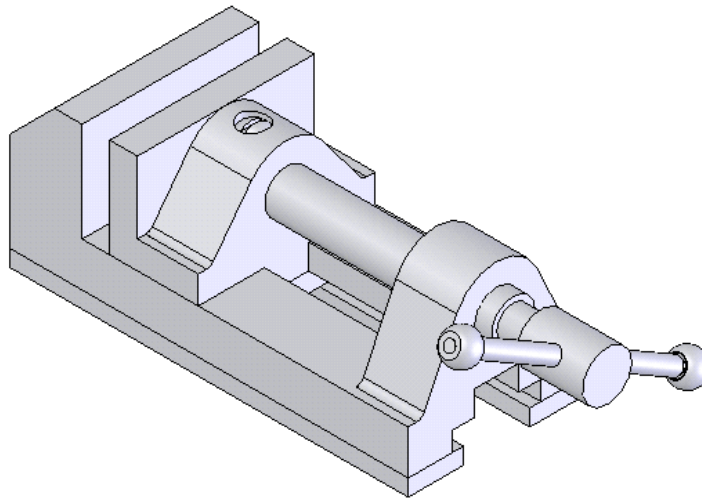
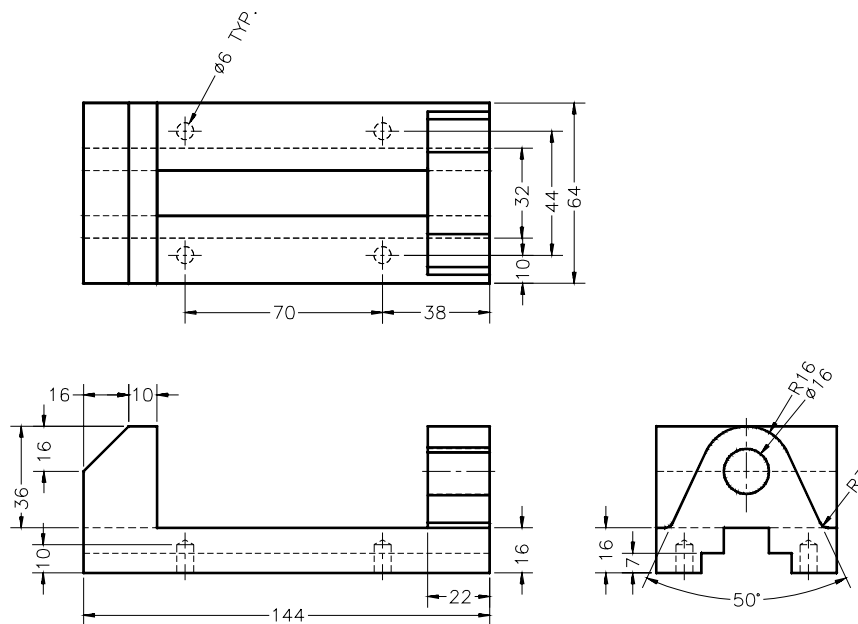

Figure 10-49 Bench Vice assembly
Figure 10-50 Views and dimensions of the Vice Body
In this tutorial you will create all the components of the Bench Vice and then assemble them. The bench vice assembly is shown in Figure 10-49. The dimensions of the various components are given in Figures 10-50 through 10-53. **(Expected time: 2 hrs 45 min)**
- Create all the components of the Bench Vice assembly as separate part documents. Specify the names of the files as shown in Figures 10-50 through 10-53. The files should be saved in the directory */My Documents/SolidWorks/c10/Bench Vice*.